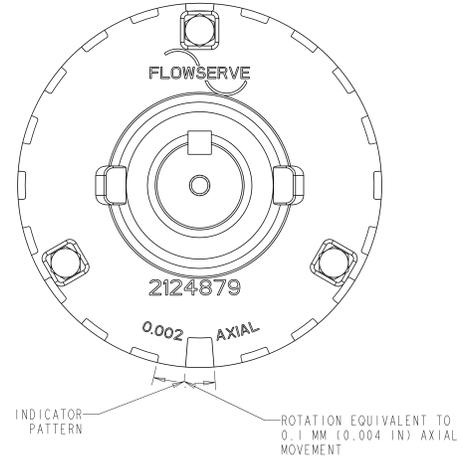

FIGURE 2
- b) Set the impeller clearance by loosening the set screws [6577] and rotating the thrust bearing housing [3240] to obtain the clearance. Turn the thrust bearing housing counter-clockwise until the impeller comes into light rubbing contact with the casing [1112]. Rotating the shaft at the same time will accurately determine this zero setting. Now, rotate the thrust bearing housing clockwise to get the proper clearance. Rotating the thrust bearing housing the width of one of the indicator patterns cast into the thrust bearing housing moves the impeller axially 0.1 mm (0.004 in). (Figure 2).